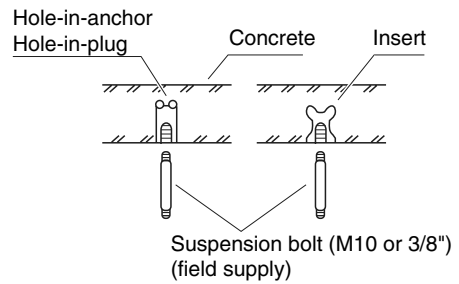

Fig. 3-71
- Insert suspension bolts as shown in Fig. 3-71 or
- (2) Screw in the suspension bolts allowing them to protrude from the ceiling as shown in Fig. 3-71. (Cut the ceiling material, if necessary.)